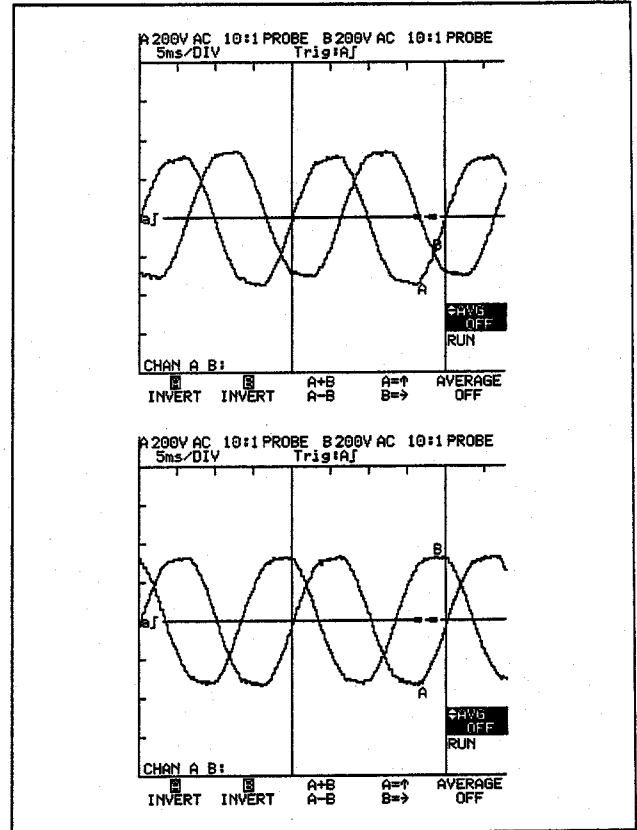

Figure 5.9 Rotation measurements
③ **SCOPE**
④ **AUTO SET**
⑤ **mV** / **V** Channel A and Channel B as necessary
⑥ Turn circuit breaker on.
⑦ Measure connection 1 and connection 2 (see Figure 5.9).
The upper waveform is Figure 5.9 shows that line 2 (channel B) follows line 1 (channel A). The lower waveform shows line 3 follows line 1.